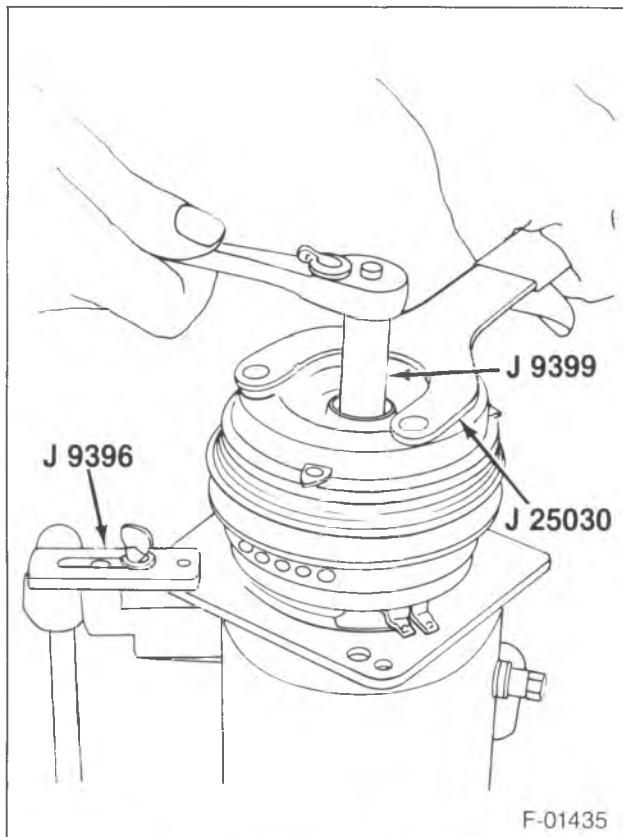
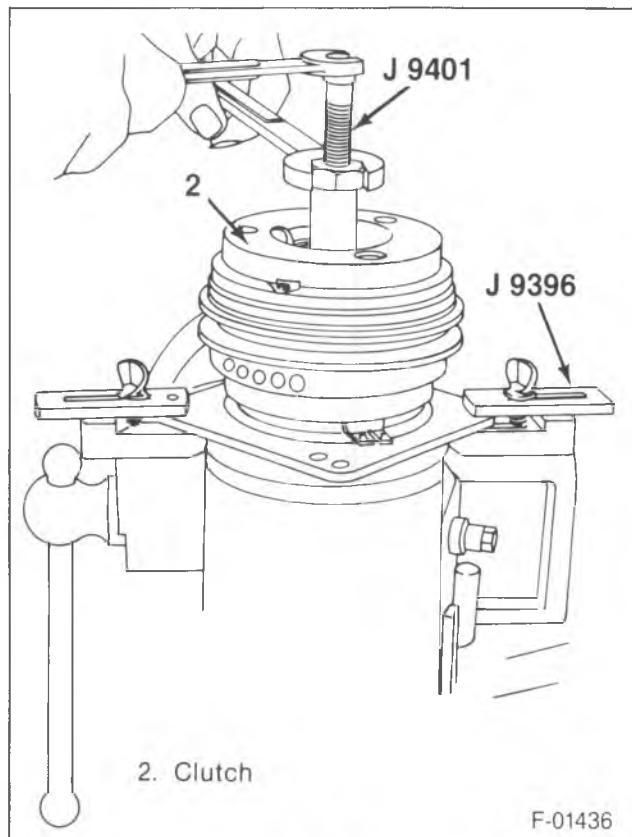

Figure 2—Removing the Shaft Nut
Figure 3—Removing the Clutch Plate and Hub Assembly
- Compressor to J 9396. Secure with thumb screws (figure 2).
- 1. Shaft nut (1) with J 9399.
- Hold the clutch plate and hub assembly (2) with J 25030 (figure 2).
- 2. Clutch plate and hub assembly (2).
- Thread J 9401-A into the clutch plate and hub (2) (figure 3).
- 3. Shaft key (36).
- Retain the shaft key (36) if usable.